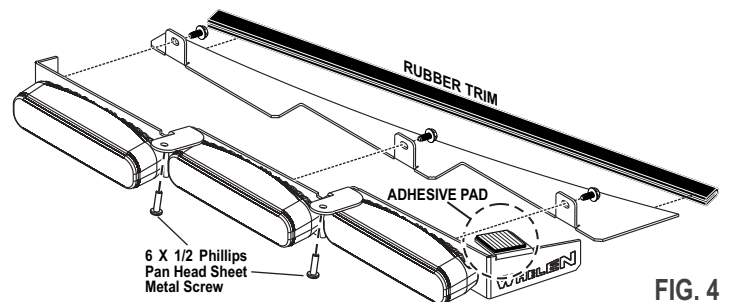

FIG. 4
8. Mount the rubber trim to each mounting bracket (where the bracket touches the windshield - Fig. 4). Before mounting the lightbar(s) use the supplied alcohol pad to clean the area that the adhesive pad on the mounting bracket will adhere to. Peel the paper backing off the adhesive pads on the both mounting brackets and mount the lightbar(s) to the spoiler with the supplied 6 X 1/2 Phillips Pan Head Sheet Metal Screws.